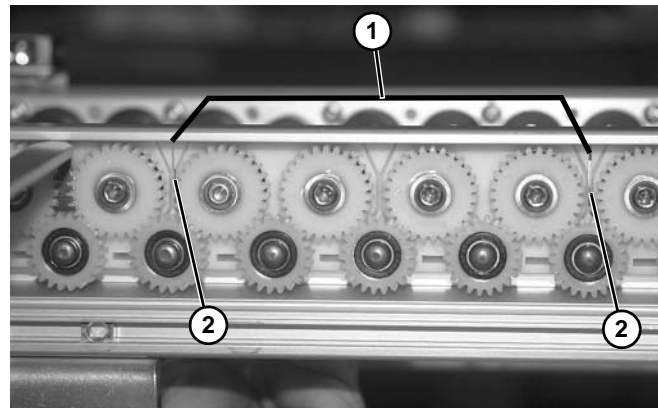

Figure 21
3. Before removing gear verify the location of the correct bearing housing assembly (Figure 21, item 1) to remove.
You can verify each end of the bearing housing assembly (Figure 21, item 1) by noting the vertical edges (Figure 21, item 2).